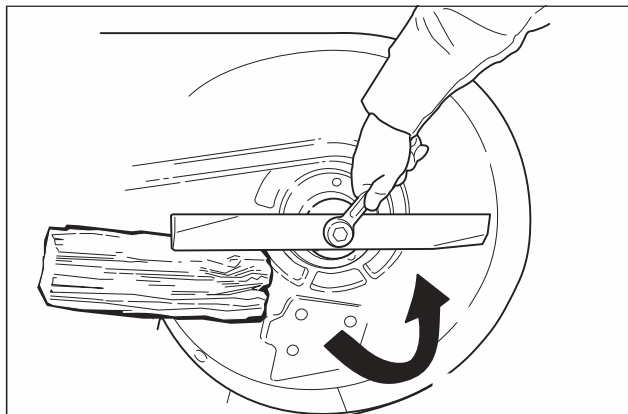

Figure 29. Loosening the Mower Blade for Removal
1. To remove the mower blade, wedge a wooden block between the mower blade and the mower deck housing to keep the blade from turning and remove the mower blade mounting bolt with a 15/16" wrench (Figure 29).